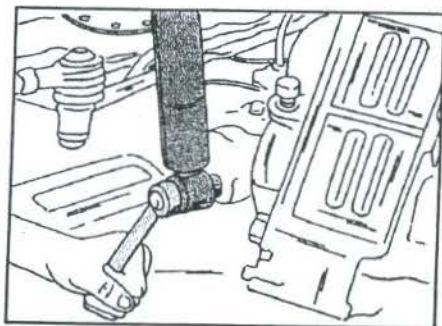

Fig. 4.4 – Fitting a shock absorber to the lower mounting.
- Refit both shock absorbers to the front axle. A spacer bush and a washer is placed between the axle beam and the shock absorber. Tighten the shock absorbers nuts (Fig. 4.4) to 7.0 kgm (50 ft.lb.).